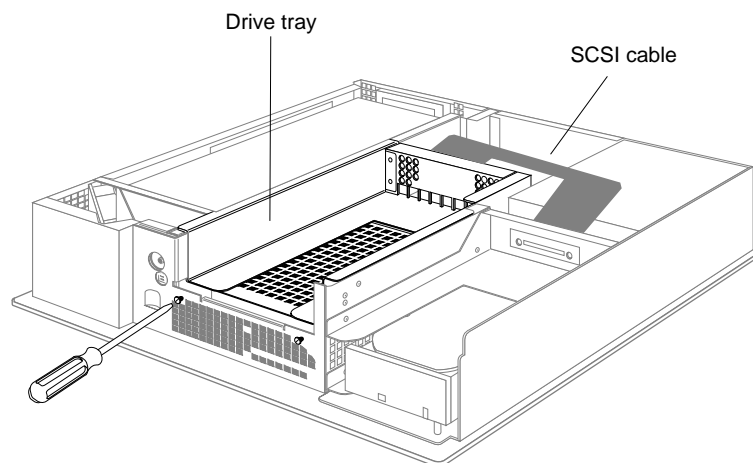

Figure 8-29 Loosening the Screws on the 5-1/4" Drive Tray
2. Remove the 5-1/4" drive tray and drive, as shown in Figure 8-29. (There is no need to remove the drive from the tray first.)